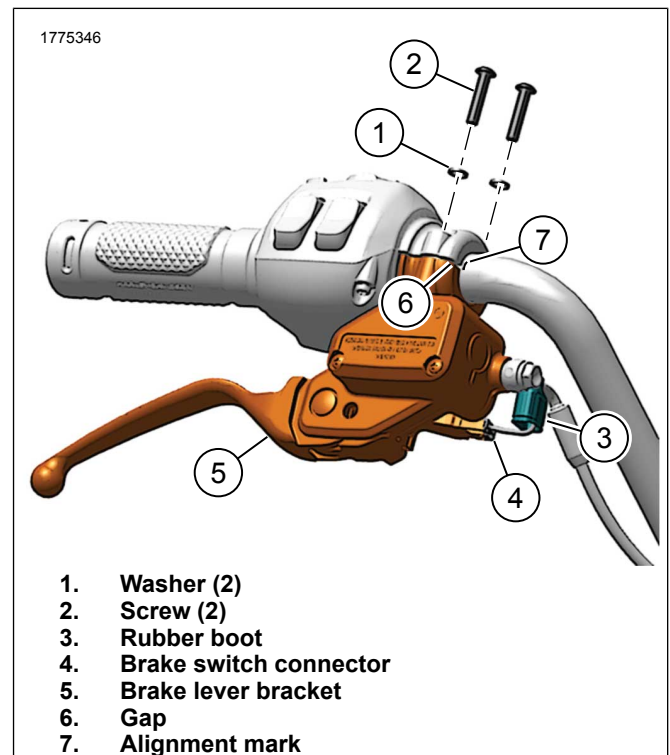

Figure 8. Brake Lever Bracket (typical)
5. Figure 8 Install brake lever bracket.
- a. Place brake lever bracket (5) on RHCM bracket.
- b. Install washers (1).
- c. Install screws (2) and align gap (6) with alignment mark (7).